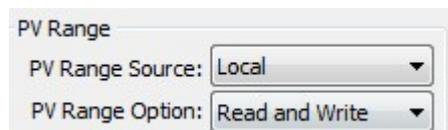

Figure 5.53 PV range mode selection
1. Select "detailed Design"->"PV range" in the drop-down box corresponding to"PV range operating mode", which includes read-only and read-write, as shown in Figure 5.53